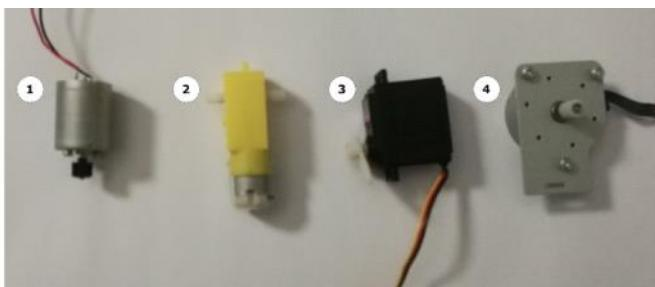

Figure 2.4 – Different motor types – a DC motor, DC gear motor, servo motor, and stepper motor
1. **DC motor:** This is the most simple type of motor in robotics and forms the basis of gear motors. It uses **Direct Current (DC)** voltage, which means it can be driven simply by voltage running one way through it. The motor speed is in proportion to the voltage running through it versus the torque required to move. A bare DC motor like the one in Figure 2.4 can spin too fast to be useful. It will not have much torque and stall easily.